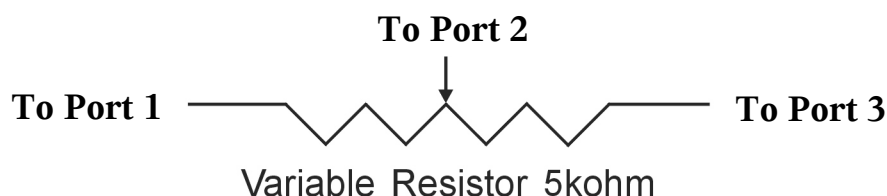

Fig. 7
- (ii) Prepare a 5kohm variable resistor and use wires from port 1, 2 and 3 as shown in Fig.7.